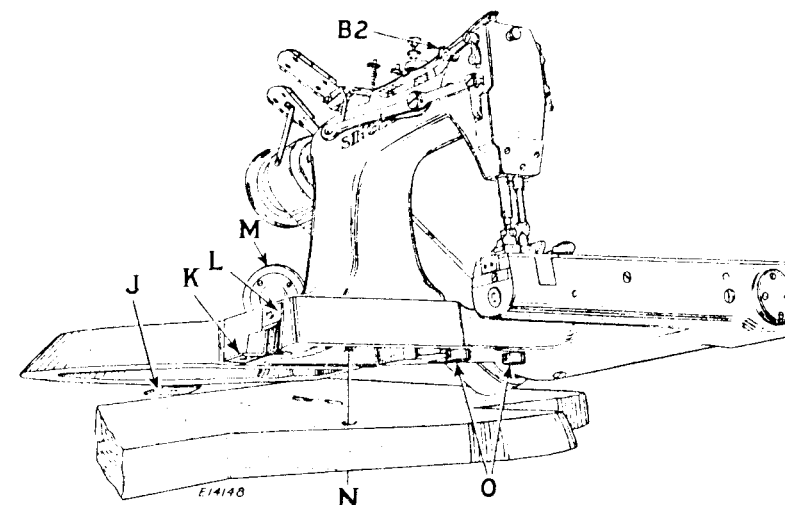
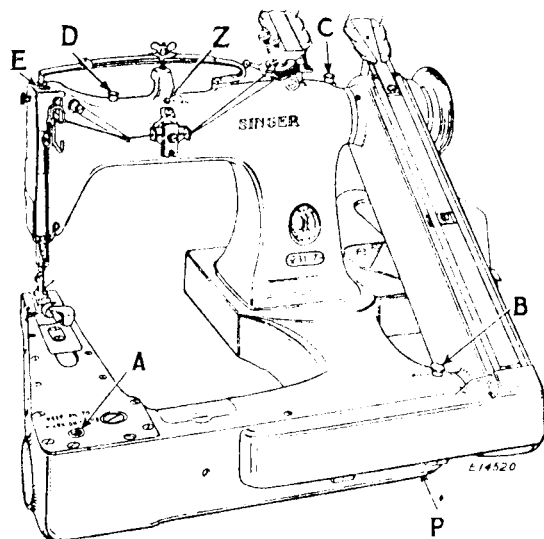
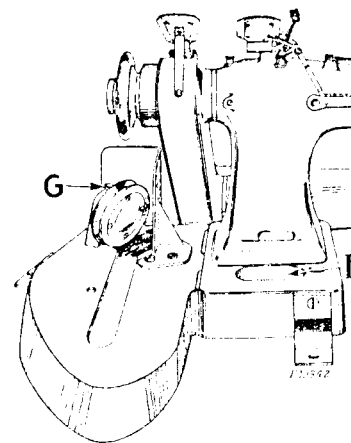
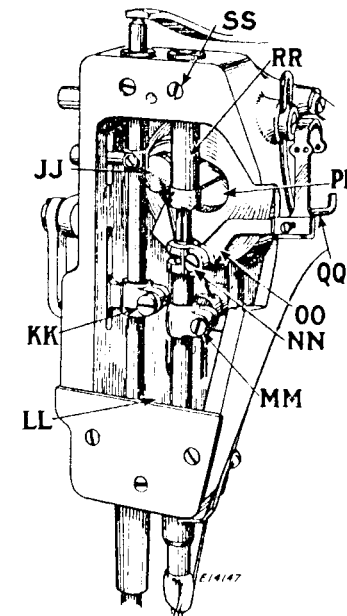

FIG. 2
Fig. 3
Fig. 5
Fig. 17
Unpack and thoroughly clean the machine. Attach the counterweight to the machine bed as shown in Fig. 5. Insert the two rubber cushions (O, Fig.2) into the holes in the base of the machine. Place the machine in position with the edge of the machine base in line with the edge of the table as shown below, and see that the hole (N) for the presser bar lifter chain is in line with the hole in the table plank.
The two vibration dampeners (J and K, Fig.2) are placed at the rear of the machine base and at the right of the counterweight as shown in Fig. 2. Attach the straight straps (L) to the machine base and counterweight, then locate and drill holes in the table and fasten the angle straps (K) of the dampeners to the table with 1/4 X 2 1/4 inch bolts.
When the machine is operated on a SINGER* Electric Transmitter Power Table or a Low Shaft Power Table, the idler pulley (M, Fig.2) is attached to the machine counterweight as shown in Fig. 5.
1. After the machine has been set up so that its cylinder arm cover is level, lift out the gauge (A, Fig. 3) and fill the arm reservoir to the level of the mark on the gauge. Run the machine a few minutes, then wipe off the gauge and recheck the oil level. THIS RESERVOIR SHOULD BE FILLED ABOUT TWICE A WEEK OR OFTEN ENOUGH TO KEEP THE OIL LEVEL UP TO THE MARK ON THE GAUGE.
3. Place about 5 drops of oil in each of the three cups (B, C and D, Fig. 3) which lubricate the ball bearings, and in the cup (G, Fig. 5) on the idler pulley underneath the balance wheel. DO THIS ABOUT ONCE A WEEK.
4. Place a drop of oil once a day in the oil hole (Z, Fig. 3) directly above the nipper.
NOTICE: When the machine is first set up, or after it has stood idle for some time, put a few drops of oil in the top of the needle bar guide pin (E, Fig. 3) before starting the machine.
OIL DRAIN: Surplus oil from the bearings drains into the wells at the rear of the base (H, Fig. 5) and in the head of the arm (LL, Fig. 17). These wells may be kept empty by soaking out the oil with waste or similar material.
Oil which accumulates in the front of the bed under the rotary shaft should be drained out occasionally by removing the screw plug at (P, Fig. 3) in the bottom of the bed, to prevent oil from getting on the looper thread take-up.
The needle bar may be raised or lowered after loosening the clamping screw (MM, Fig. 17).
The needle thread take-up (OO, Fig. 17) is usually set so that the top of its clamp is about 1/16 inch below the top of the needle bar.
The auxiliary thread take-up (QQ, Fig. 17) at the front of the machine should be set high enough so that it takes up the slack of the needle threads after the loopers have shed the needle loops and as the needle bar finishes its downward stroke and the stitch is set.
(See Fig. 17)
Remove face plate, presser foot and needles. Remove the balance wheel, belt guard cover and belt, as instructed on page 17. Remove the upper belt pulley. Loosen the presser bar lifter bracket clamp screw (KK, Fig. 17) and withdraw the presser bar from the top. Loosen clamp screws (MM and NN), remove the thread take-up and allow the needle bar to drop downward. Loosen set screw (SS) and tap the needle bar guide pin (RR) out through the top. Then tap the shaft out through the needle bar end, with the crank, oil retainer ring and ball bearing.
TO REMOVE ONLY THE ARM SHAFT CRANK, lower the needle bar and remove the presser bar as instructed above, take out the large cap screw (PP, Fig. 17) in the crank, and loosen the two large set screws in its perimeter which are accessible through the hole in the rear of the casting. The smaller screw which is also visible through the hole in the casting should not be molested. The crank may then be removed from the shaft.